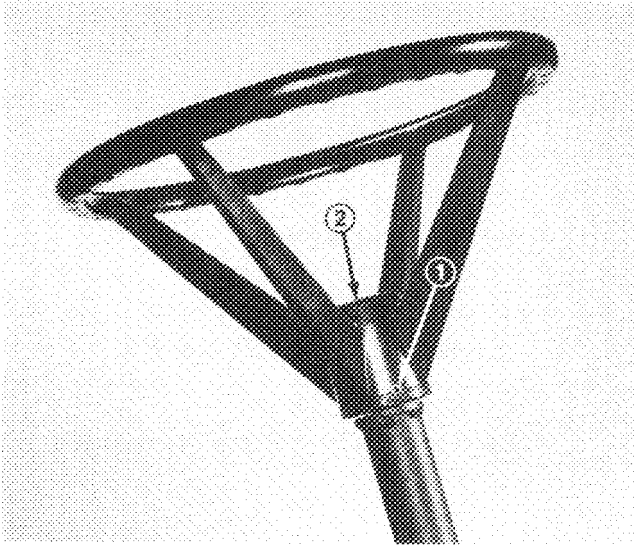

Figure 2
Note: Steering wheel insert (Fig. 2) should be readable from operator's position with wheels turned straight ahead.
3. Drive the roll pin in until it is flush with the outside of the wheel (Fig. 2).